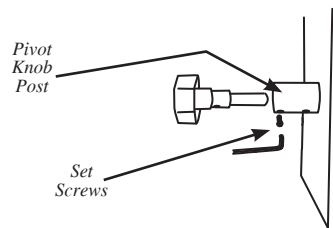

FIGURE 5
9. Tighten the second Set Screw under the Pivot Knob Post until it stops (make sure the Set Screw fits in the notch on the Pivot Knob shaft). Loosen the Set Screw $\frac{1}{2}$ turn to allow the Pivot Knob to rotate freely (FIGURE 5).